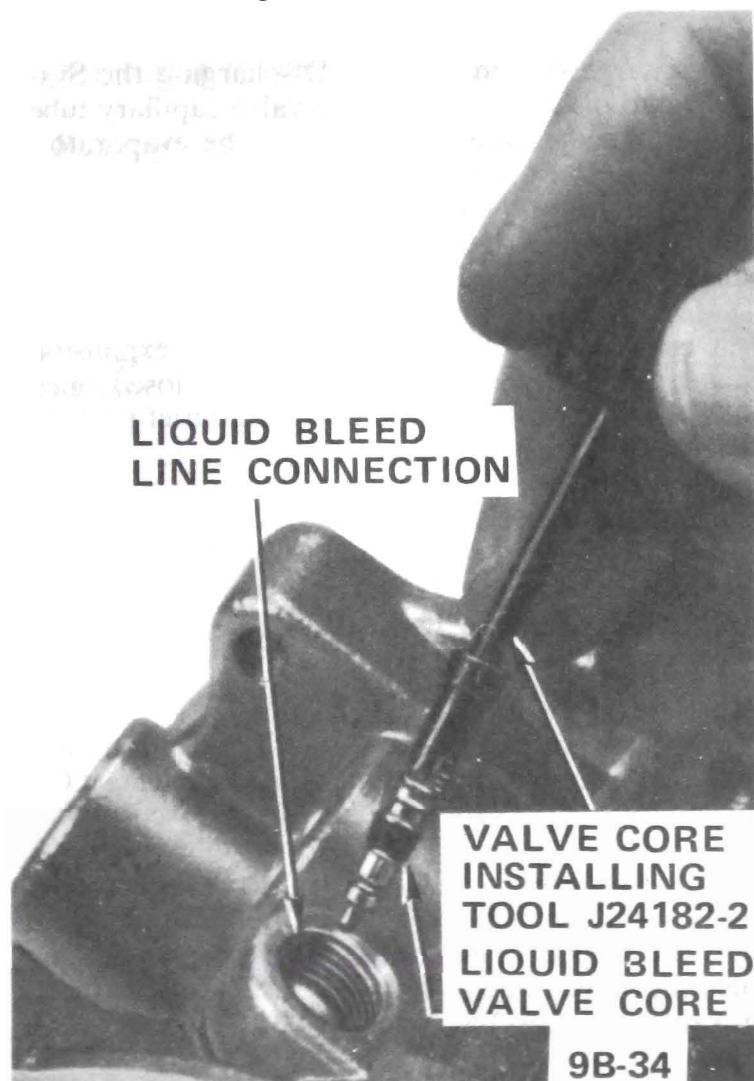

Figure 9B-38 Installing or Removing Liquid Bleed Valve Core with Tool J-24182-2
2. When the system is completely discharged, disconnect the liquid bleed line, remove and replace the bleed valve core using tool J24182-2. Discard the old valve core. See Figure 9B-38.